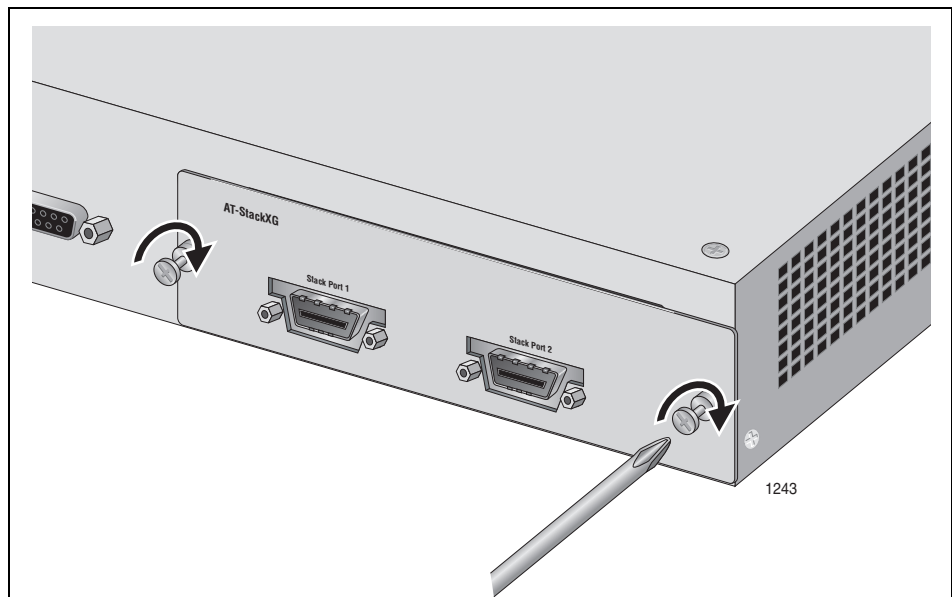

Figure 11. Securing the AT-StackXG Stacking Module
4. Secure the module to the chassis by tightening the two captive screws with a cross-head screwdriver. Refer to Figure 11.